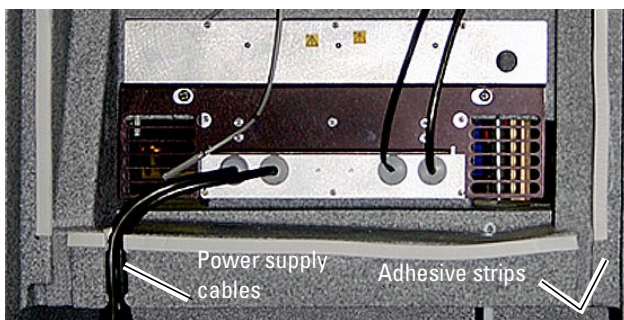

Figure 21: Rear view with module removed Route power supply cables then remove adhesive strips
10. Ensure that the power supply cables are routed through the proper channels in the refrigerator housing (Figure 21).
11. Using a flat screwdriver or putty knife, remove the adhesive strips from the refrigerator housing (Figure 21).